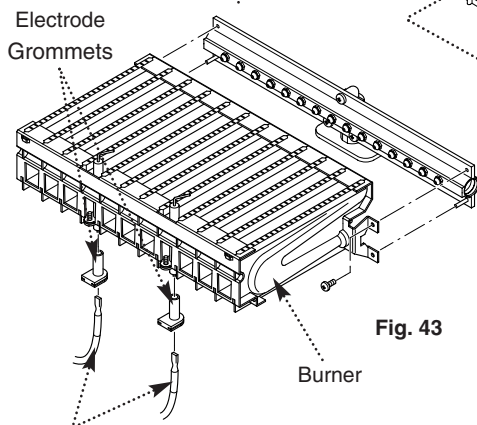

Fig. 43
12. Undo the screws securing the burner to the injector manifold. Draw the burner out of the combustion box, pulling the electrode grommets from the slots in the combustion box lower panel (Fig. 43).
13. Disconnect the electrode leads and grommets from the electrodes. Completely remove the burner (Fig. 43).